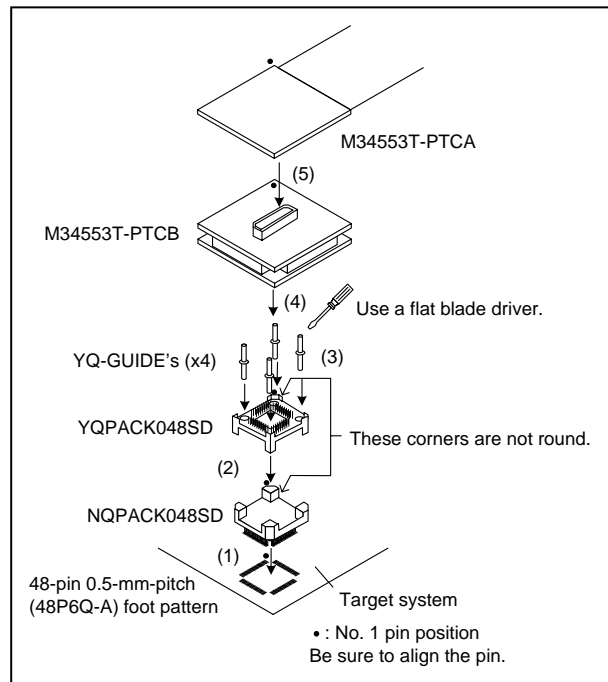

Figure 3 Connection procedure of the M34553T-PTCB
5. Connection Procedure (See Figure 3)